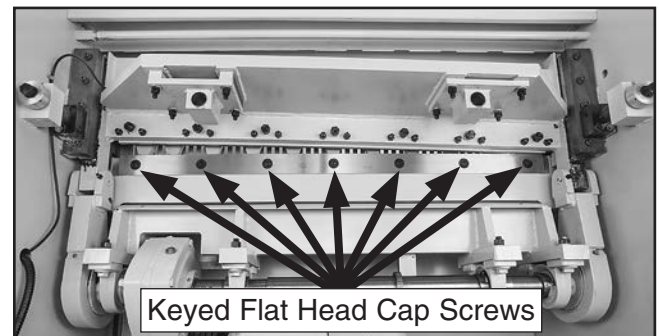

Figure 63. Location of keyed flat head cap screws in lower blade.
4. With assistant at rear of machine to support blade, remove hex nuts and flat washers loosened in **Step 3**, then have assistant pull blade off frame (see **Figure 63**).